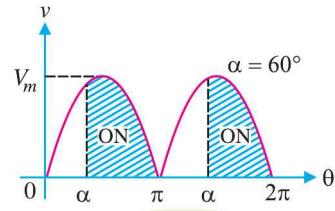

Fig. 20.16
**Solution.** Let  $v = V_m \sin \theta$  be the alternating voltage that appears between centre tap and either end of the secondary. Let  $\alpha$  be the firing angle as shown in Fig. 20.16. This means that SCR will conduct at  $\theta = \alpha$ . Clearly, SCR circuit will conduct from  $\alpha$  to  $180^\circ$ .